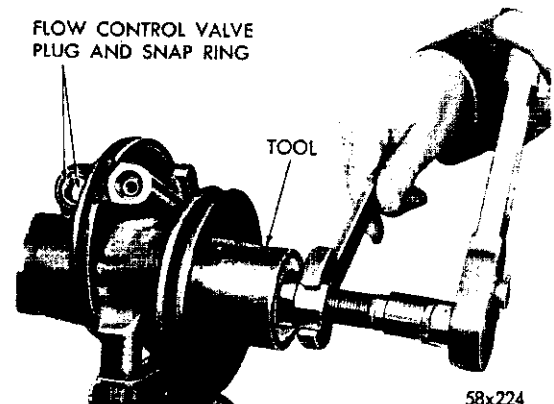

Fig. 57—Removing the Pump Pulley
(1) Clean the exterior of the pump before disassembly.
(2) Remove the filler cap and drain the reservoir.
(3) Remove the brackets, reservoir screws, gasket and "O" ring.
(4) Using spacer washers between the front bracket and the pump, reinstall the front bracket for use as a holding fixture. Clamp the bracket in a vise (Fig. 57).
(5) Remove the pulley with Tool C-3615 as follows:
inward to remove the pulley (Fig. 57).